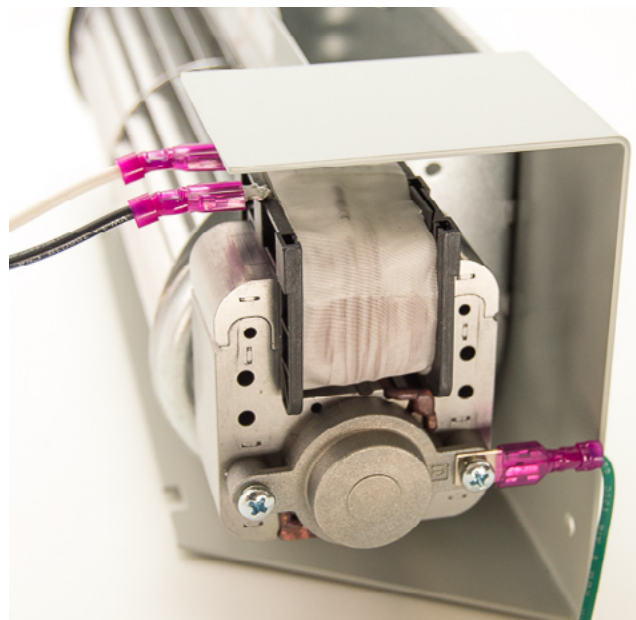

Figure: 1
**Step 2:** Push the Green Ground Wire disconnect onto the ground tab on the end of fan. (Figure: 1)
Connect white and black wires of the cord set to either of the two spade terminals attached to the motor. Push disconnects onto metal tabs. (Figure: 1)